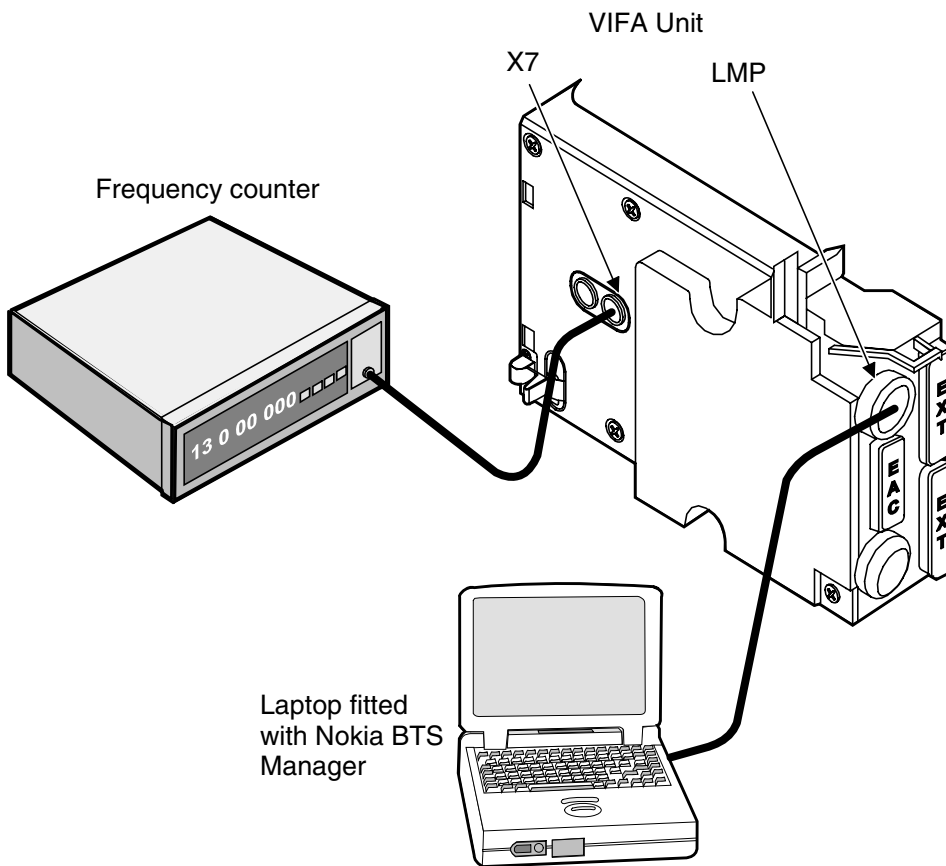

Figure 2. 13 MHz clock adjustment
2. Connect the frequency counter to the X7 connector on the interface unit (first socket from the front). See Figure 2.
3. Connect the Nokia BTS Manager laptop PC to the LMP port of the interface unit. See Figure 2.